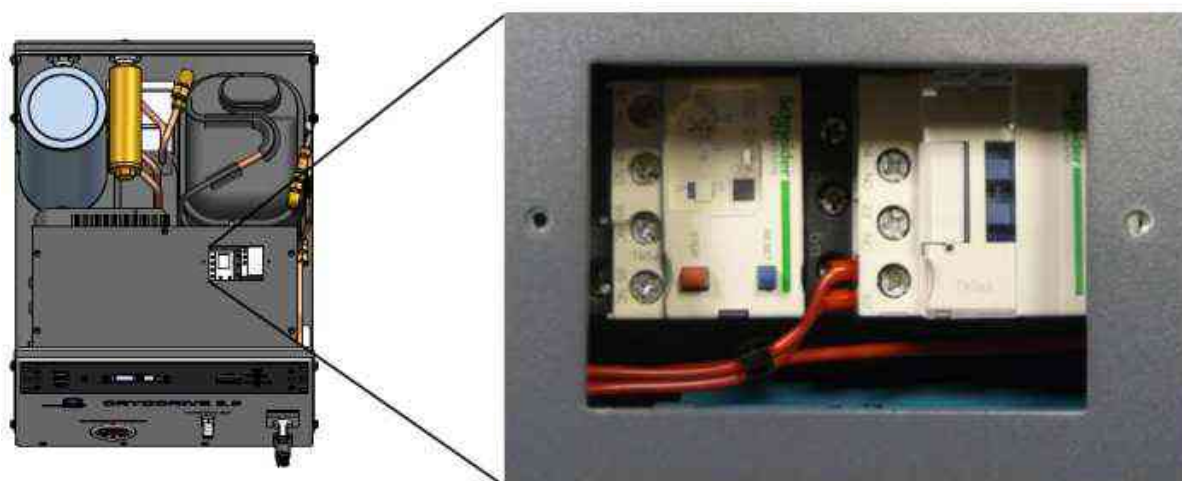

Figure 9 – Overload relay showing stop and reset buttons
- Locate the protection switch on the current-limit potentiometer which is situated in the CryoController, refer to Figure 9. The switch can be accessed by removing the lid of the CryoController unit.
With reference to Figure 9 follow the procedure to re-start the Cryodrive after the protection switch has tripped.
- The protection switch is located towards the back right of the CryoController as you face the Cryodrive (see Figure 9).